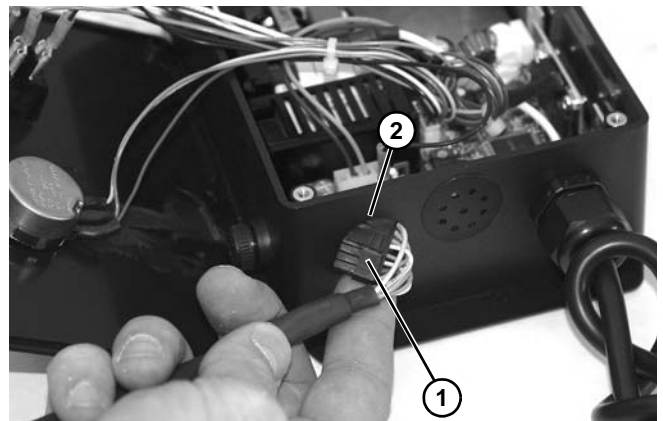

Figure 11
6. Turn connector (Figure 11, item 1), as shown, and remove wiring and connector through controller opening (Figure 11, item 2).